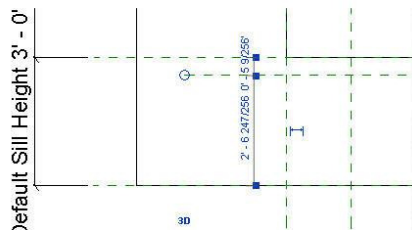

Figure 18. Creating the Reference Planes for the top and bottoms of the sill and lintel.
10. Draw the Reference Planes shown in Figure 18.